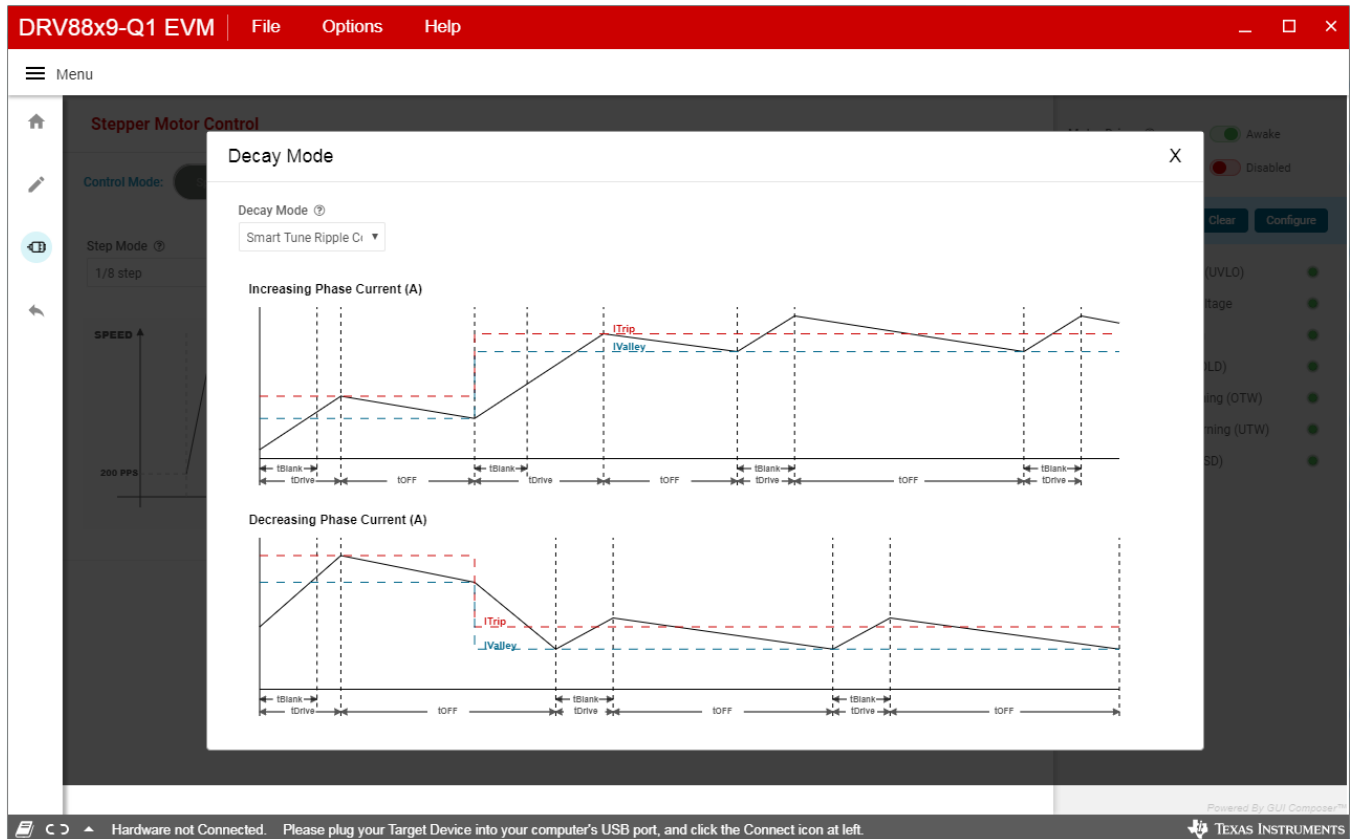

Figure 8. DRV8899-Q1 EVM GUI (Decay mode)
- Click the Decay Mode button at the top center-right of the screen. A popup appears as shown below in Figure 8.